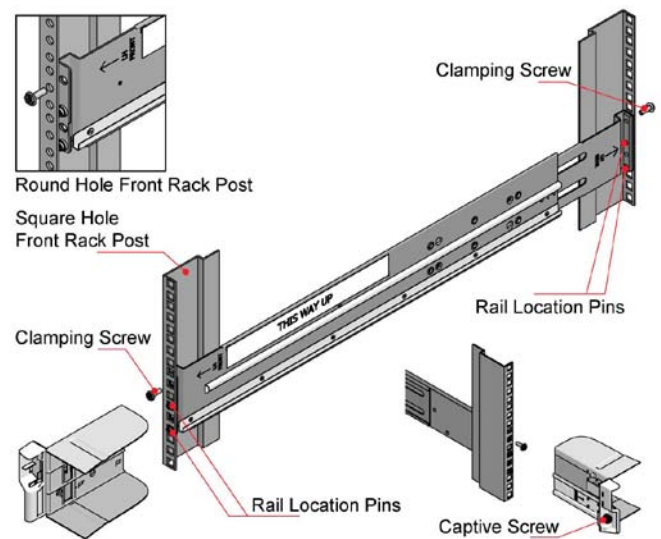

Figure 2 - Rack Installation
3. Locate the rail location pins inside the front of the rack and extend the rails to enable the rear location pins to engage. Ensure the pins are fully located in the holes in the rack posts (see Figure 2).
4. Install the front and rear clamping screws (see Figure 2). The screws should be left loose enough to allow the rail to move sideways on its slots.
6. Withdraw the enclosure approximately 200mm and fully tighten the front and rear clamping screws (see Figure 2).
7. Fasten the front of the enclosure using the two captive screws shown in Figure 2.